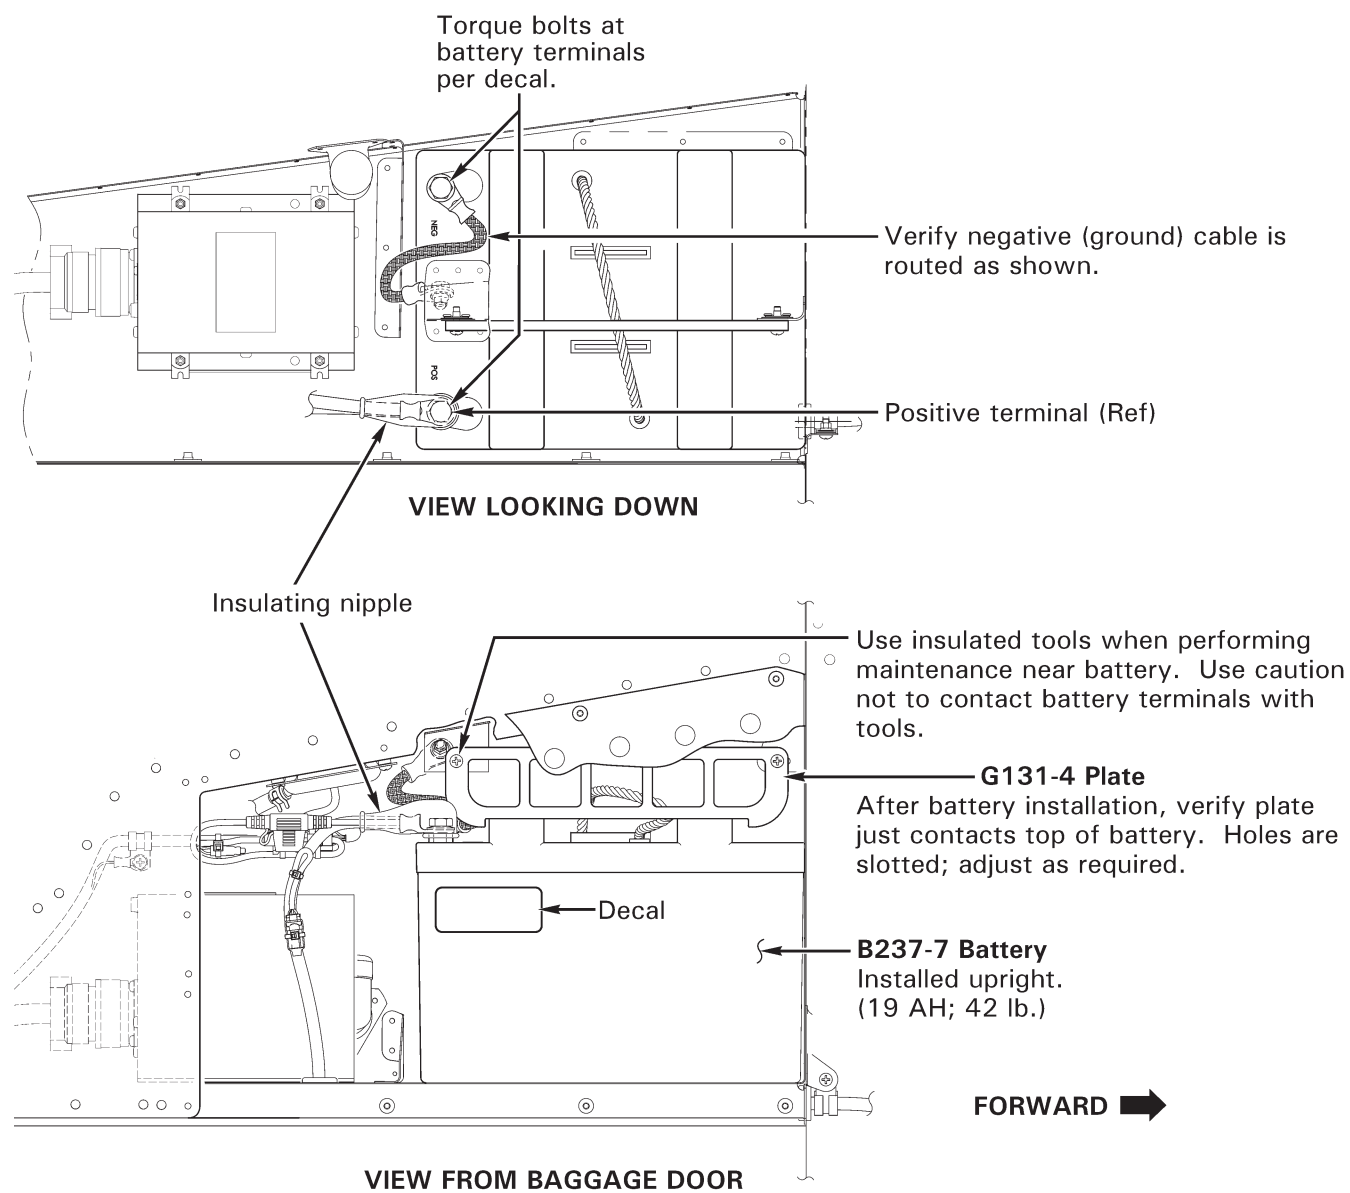

FIGURE 96-1A B237-7 (LEAD-ACID) BATTERY INSTALLATION
2. Refer to Figure 96-1A & 96-1B. Remove G248-8 cover assembly.
1. Turn battery switch off. Open baggage compartment door. Refer to Figure 96-1A & 96-1B.